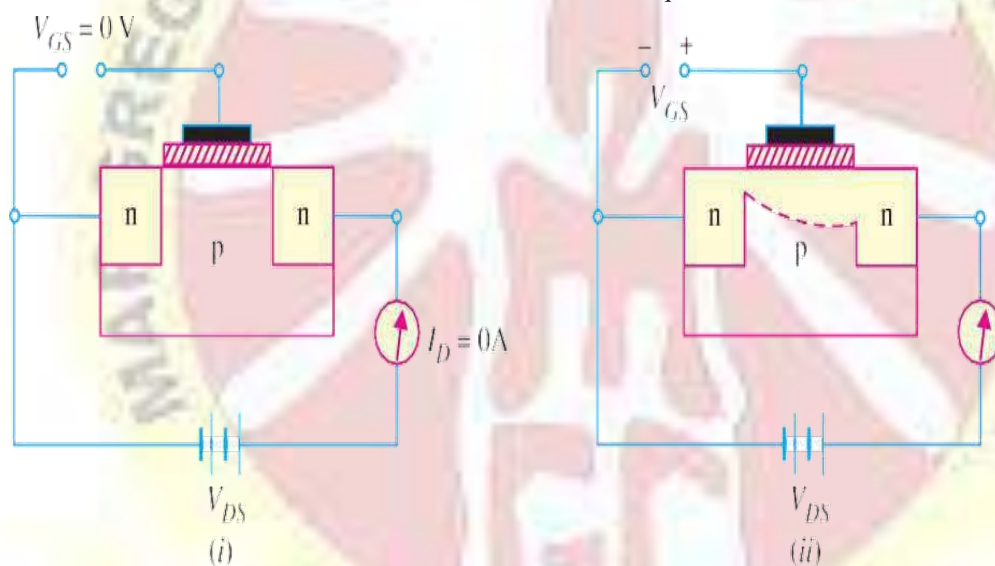

Fig.4.26
Two things are worth noting about *E-MOSFET*. First, *E-MOSFET* operates *only* in the enhancement mode and has no depletion mode. Secondly, the *E-MOSFET* has no physical channel from source to drain because the substrate extends completely to the SiO_2 layer [See Fig. 4.26(i)]. It is only by the application of V_{GS} (gate-to-source voltage) of proper magnitude and polarity that the device starts conducting. The minimum value of V_{GS} of proper polarity that turns on the *E-MOSFET* is called **Threshold voltage** [$V_{GS(th)}$]. Then *n*-channel device requires positive V_{GS} ($\geq V_{GS(th)}$) and the *p*-channel device requires negative V_{GS} ($\leq -V_{GS(th)}$).
Operation. Fig. 4.26 (i) shows the circuit of *n*-channel *E-MOSFET*. The circuit action is as under:
4.7.5 When $V_{GS} = 0\text{V}$ [See Fig. 4.26(i)], there is no channel connecting the source and drain. The substrate has only a few thermally produced free electrons (minority carriers) so that drain current is essentially zero. For this reason, *E-MOSFET* is normally *OFF* when $V_{GS} = 0\text{V}$. Note that this behaviour of *E-MOSFET* is quite different from *JFET* or *D-MOSFET*.
4.7.6 When gate is made positive (i.e. V_{GS} is positive) as shown in Fig. 4.26 (ii), it attracts free electrons into the p region. The free electrons combine with the holes next to the SiO_2 layer. If V_{GS} is positive enough, all the holes touching the SiO_2 layer are filled and free electrons begin to flow from the source to drain. The effect is the same as creating a thin layer of n -type material (i.e. inducing a thin n -channel) adjacent to the SiO_2 layer. Thus the E -MOSFET is turned ON and drain current I_D starts flowing from the source to the drain.